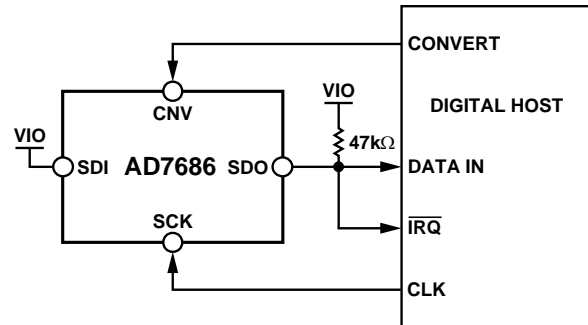
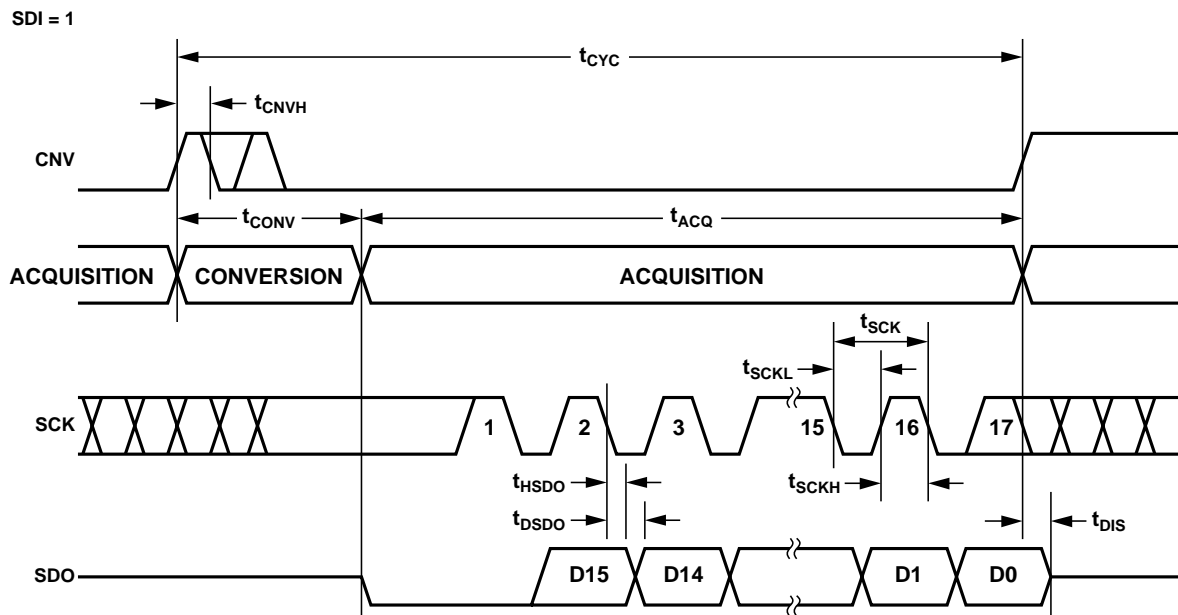
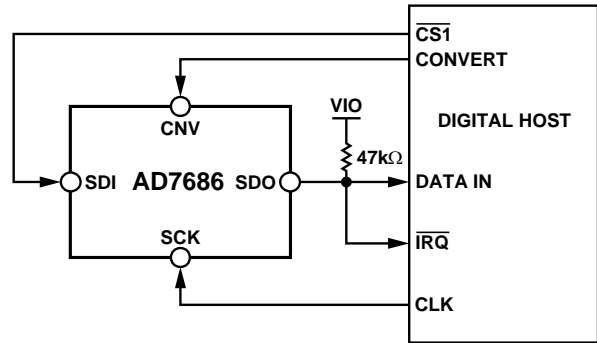
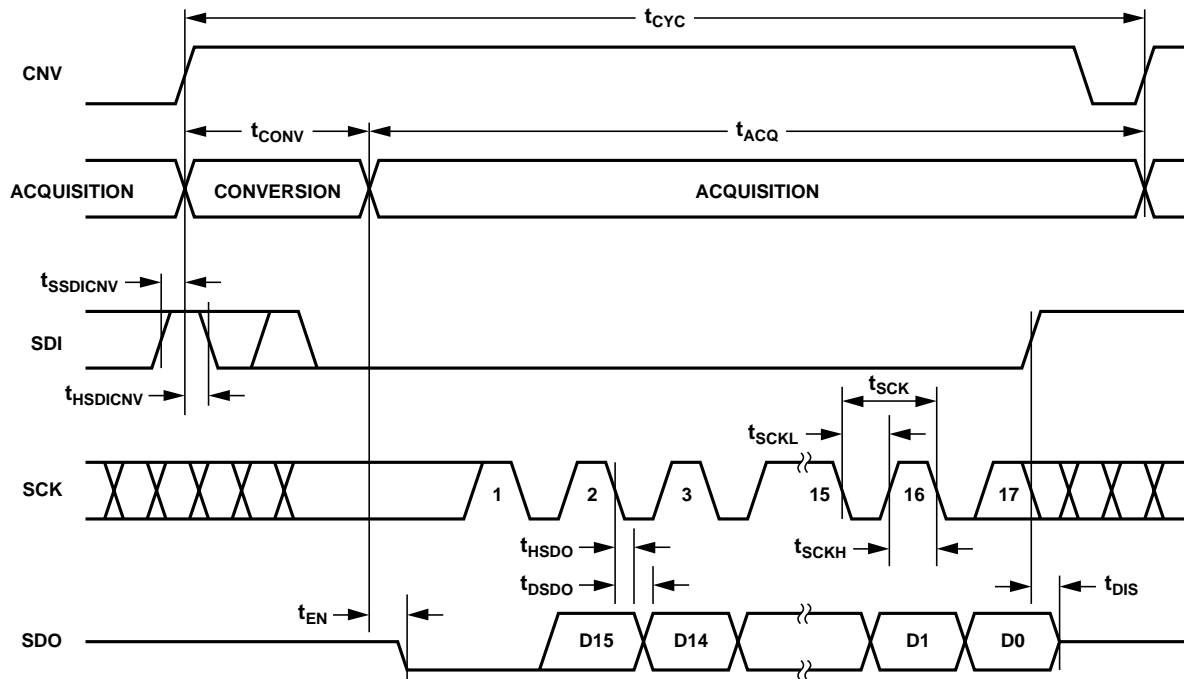

Figure 35. $\overline{\text{CS}}$ Mode 3-Wire with Busy Indicator Connection Diagram (SDI High)
Figure 36. $\overline{\text{CS}}$ Mode 3-Wire with Busy Indicator Serial Interface Timing (SDI High)
Figure 39. CS Mode 4-Wire with Busy Indicator Connection Diagram
Figure 40. CS Mode 4-Wire with Busy Indicator Serial Interface Timing
- In the \overline{CS} mode, if CNV or SDI is low when the ADC conversion ends (Figure 36 and Figure 40).
This mode is generally used when a single AD7686 is connected to an SPI-compatible digital host having an interrupt input. The connection diagram is shown in Figure 35 and the corresponding timing is provided in Figure 36.
This mode is usually used when a single AD7686 is connected to an SPI-compatible digital host, which has an interrupt input, and when it is desired to keep CNV, which is used to sample the analog input, independent of the signal used to select the data reading. This requirement is particularly important in applications where low jitter on CNV is desired. The connection diagram is shown in Figure 39 and the corresponding timing is provided in Figure 40.